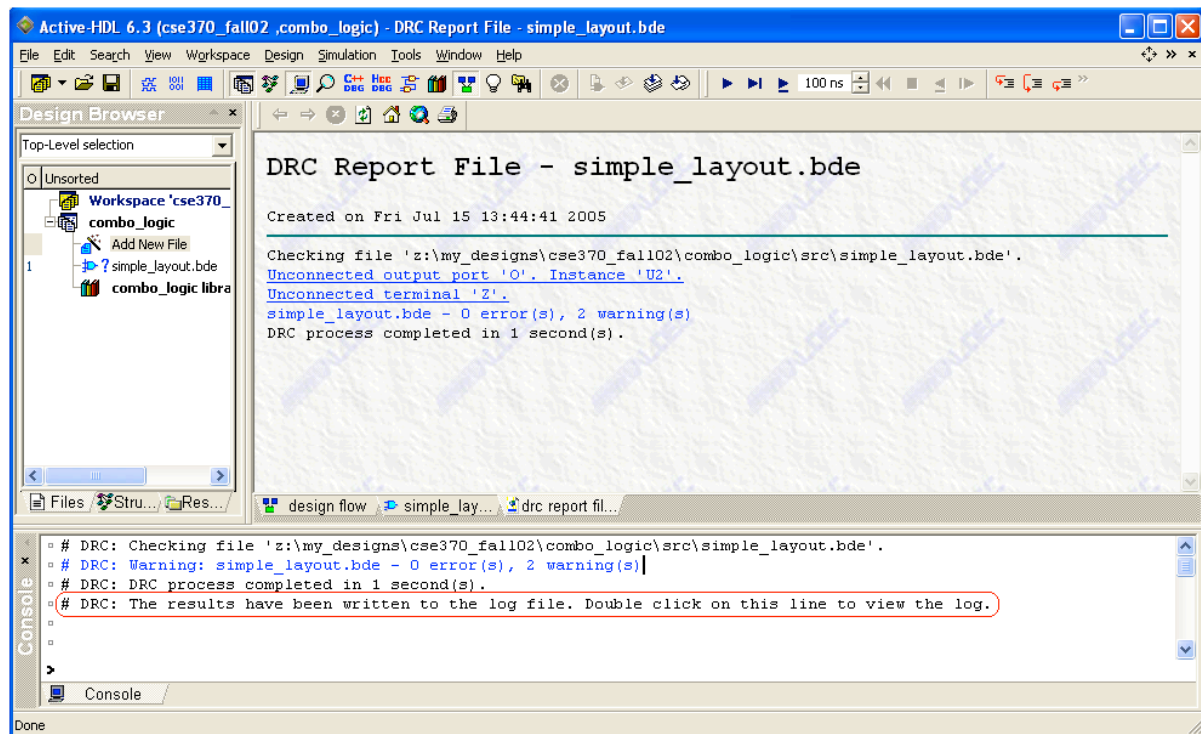

Figure 20
3. When you run the check diagram tool, a DRC report file is created. Open this file by going to the DRC line in the Console and double-click the appropriate line (see 20). This file will list any errors or warnings your design might contain, such as unconnected ports, mislabeled wires and/or terminals, and other connection related errors/warnings. Each error/warning in the report is a hyperlink that will take you to the problematic component in your design. Figure 20 shows an example of a DRC report file for a schematic with an error and some warnings.